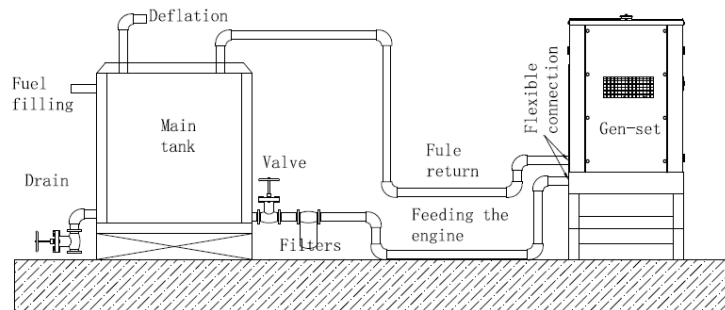

Figure 5.1 Without Intermediate Fuel Tank
5.5. Without Intermediate Fuel Tank (Fig.5.1.)
The simplest arrangement would be supply the engine directly from the bulk storage tank and return the infector spill directly to this tank. A typical arrangement for this is shown if Fig.5.1. The principle limitations of this method are: In order to gravity feed the engine, the outlet from the bulk storage tank must be a minimum of 23-5/8 inches above the generator plinth level; The pressure drop of the spill return pipe work must not exceed that detailed in the Engine Data sheet; The supply pipe work from the bulk storage tank to the engine must be sized to allow the total volume of fuel required by the engine to flow under gravity.